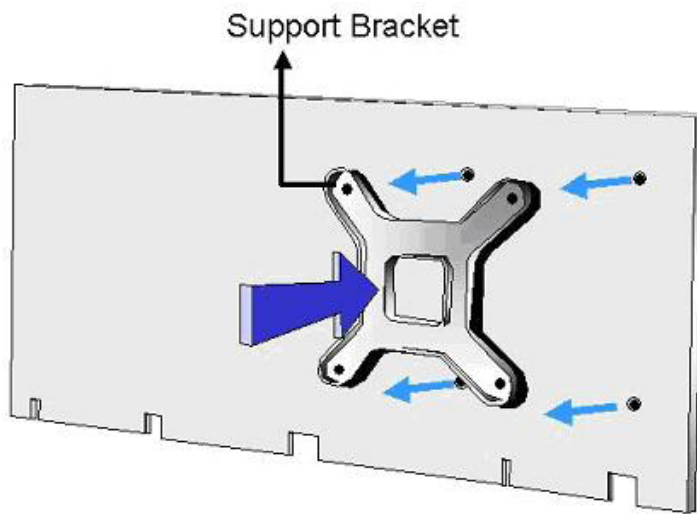

Figure 5-4: Cooling Kit Support Bracket
- Step 3:** **Secure the cooling kit.** From the solder side of the PCB, align the support bracket to the screw threads on heat sink that were inserted through the PCB holes. (See **Figure 5-4**)